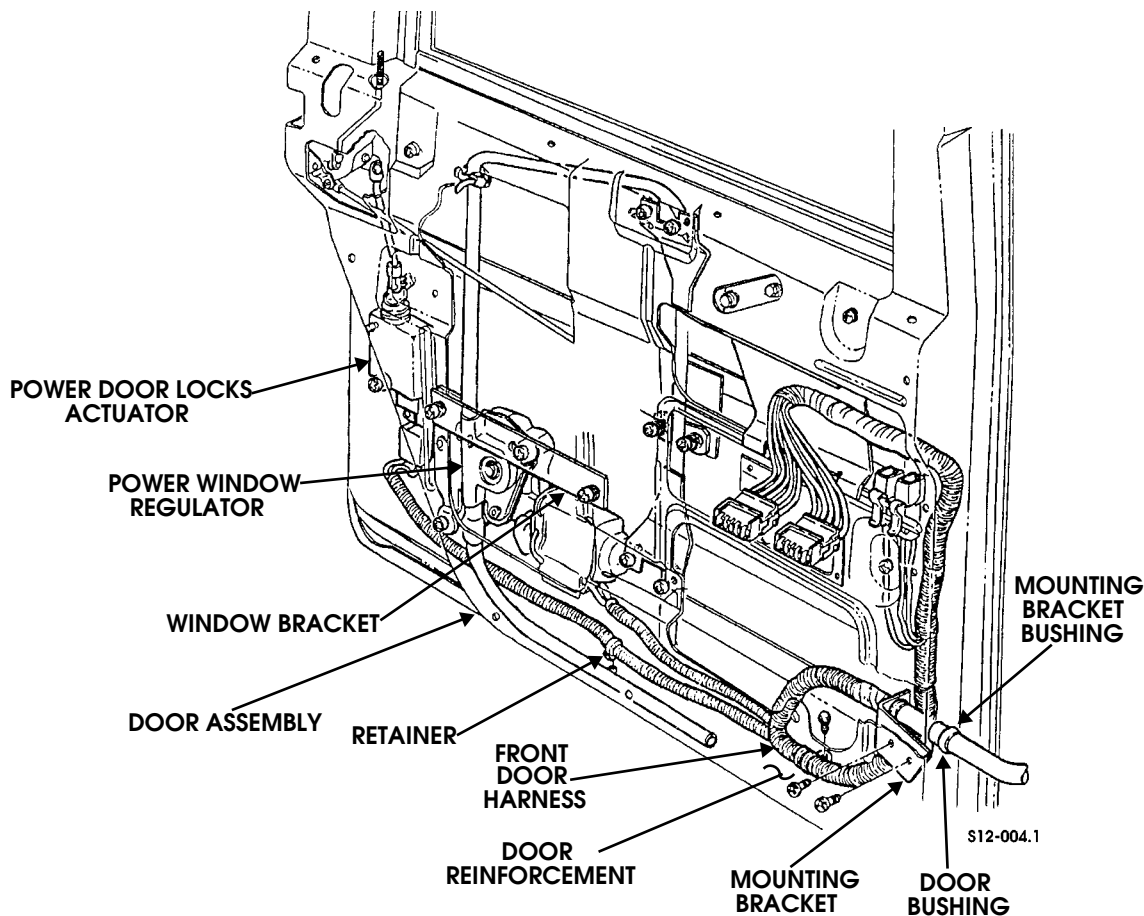

Figure 12-125: Power Windows and Door Locks Harness
11. Remove self-tapping screw and clamp securing harness to door reinforcement (Figure 12-125).
2. Install harness mounting bracket on door assembly with two self-tapping screws (Figure 12-125).
9. Connect harness connector to power window regulator (Figure 12-125).